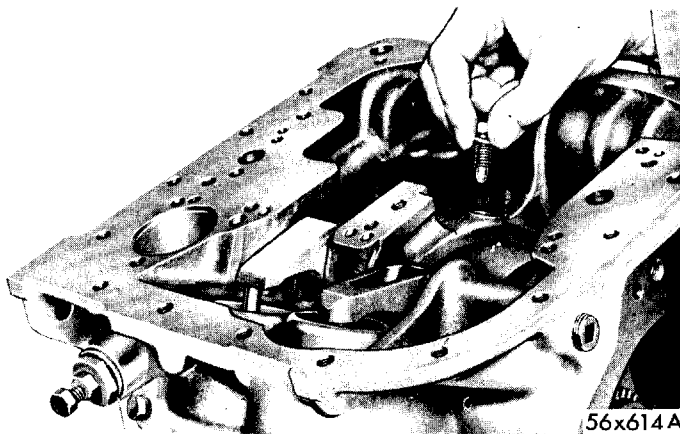

Fig. 41—Removal and Installation of Intermediate Support Locating Screw
(1) Loosen lock nuts on low-reverse and kickdown band adjusting screws, and back adjusting screws out 2 to 3 turns.
(2) Remove the three intermediate support locating bolts and lockwashers (two outside of case and one inside). When removing unit, identify locating hole in the intermediate support to correspond with the threaded locating hole inside of case for installation purposes. Figure 41.